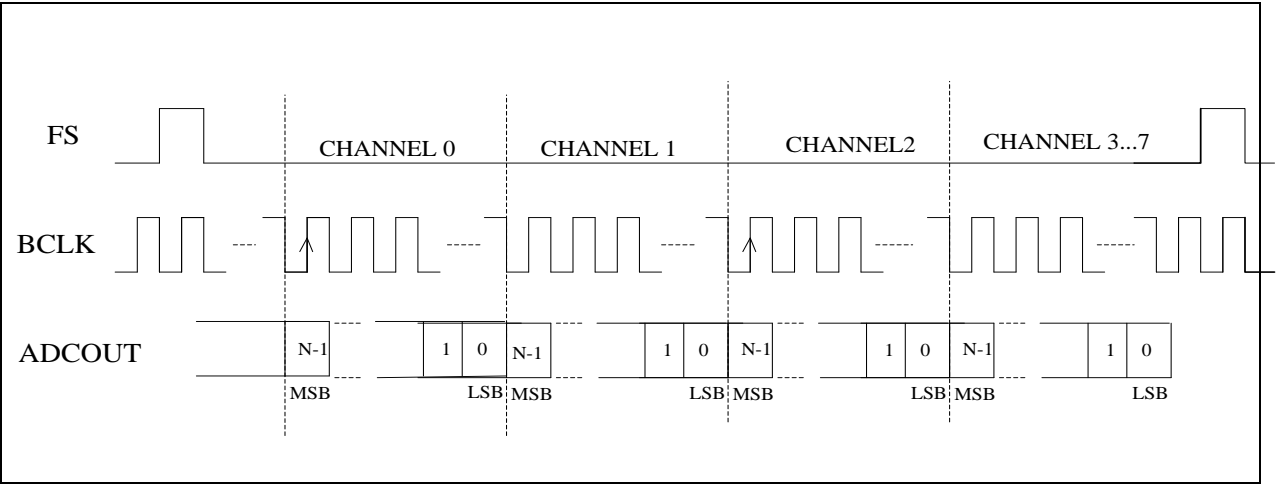

Figure 28    PCM Time Offset Audio Data
Normally, the DAC data is clocked immediately after the Frame Sync (FS). In this mode, audio data is delayed by a delay count specified in the device control registers. The Channel 0 MSB is clocked on the BCLK rising edge defined by the delay count set in **LEFT\_TIME\_SLOT TSLOT\_L0 REG0XF[9:0]**. The subsequent channel's MSB is clocked on the next BCLK after the LSB of the previous channel. This can be seen in **Figure 28**.